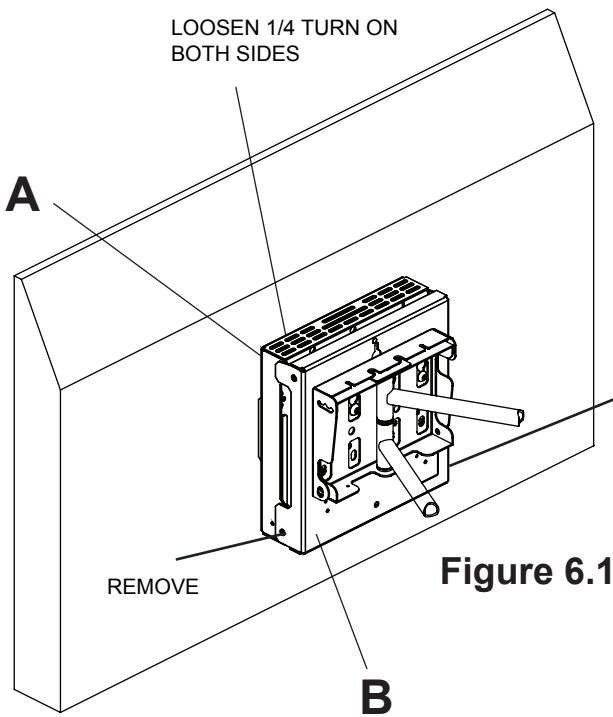
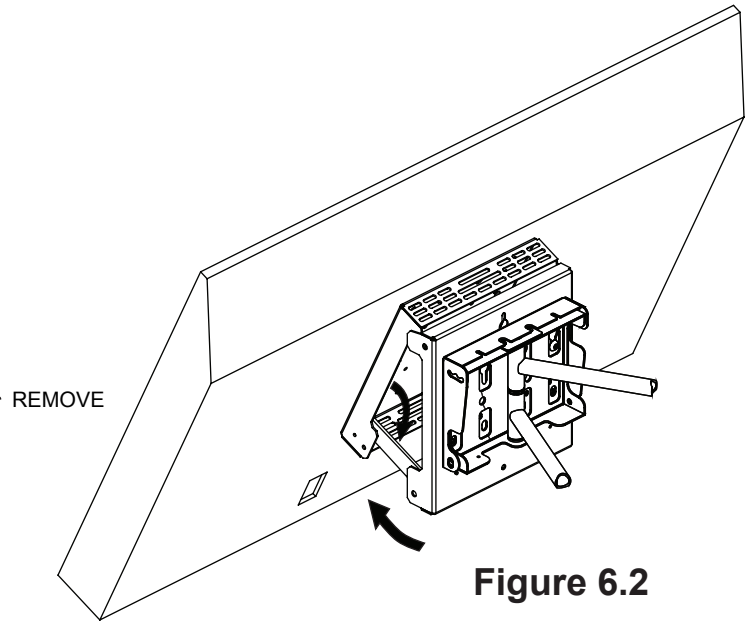

Figure 6.1
Figure 6.2
- 6** Loosen top two M8 x 15 mm screws (**E**) 1/4 turn and temporarily remove bottom two M8 x 15 mm screws (**D**) on adapter plate (**A**) as shown in figure 6.1. Swing screen forward and swing support brackets downward into adapter plate (**B**) to brace screen in open position as shown in figure 6.2.